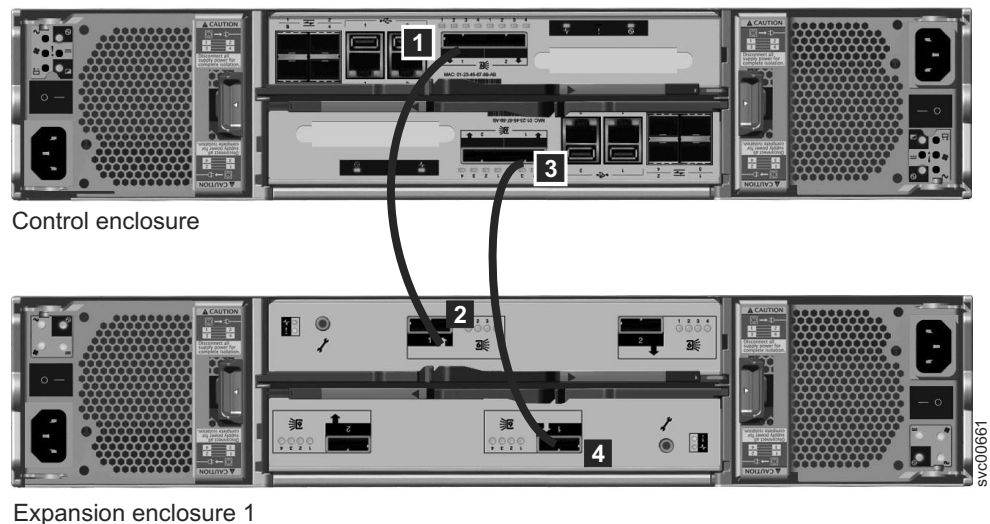

Figure 12. Attaching an expansion enclosure to the control enclosure
2. Attach the SAS cables from the control enclosure to the first expansion enclosure as shown in Figure 12. Remove the protective end covers, if necessary. The first expansion enclosure is below the control enclosure.